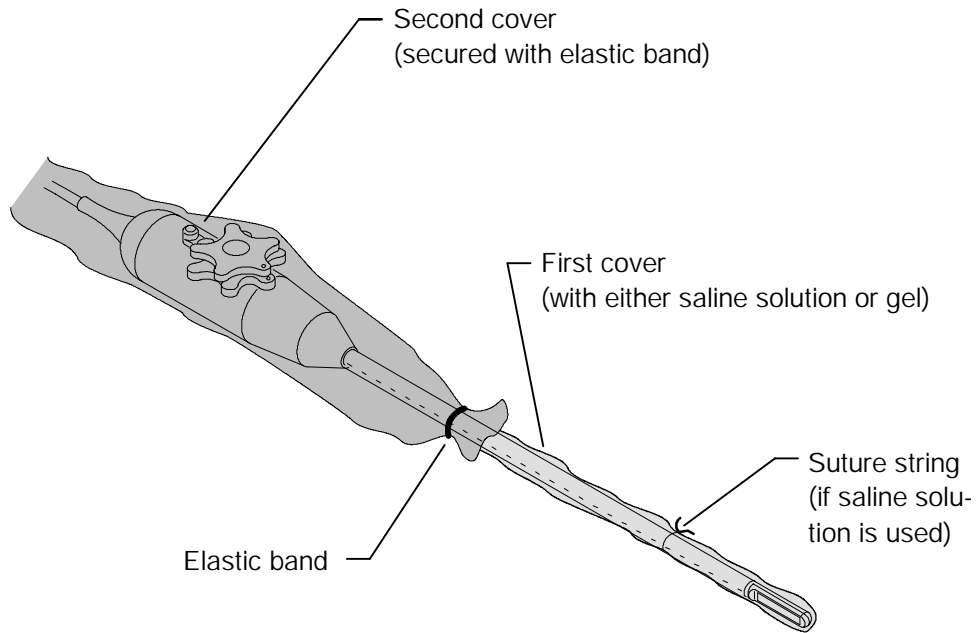

Figure 6-6. Laparoscopic Scanhead with Sterile Covers
5. If saline solution is used, secure the cover using a suture string (Figure 6-6).
6. Position the second cover over the control housing and the cable, and secure it with an elastic band (Figure 6-6).